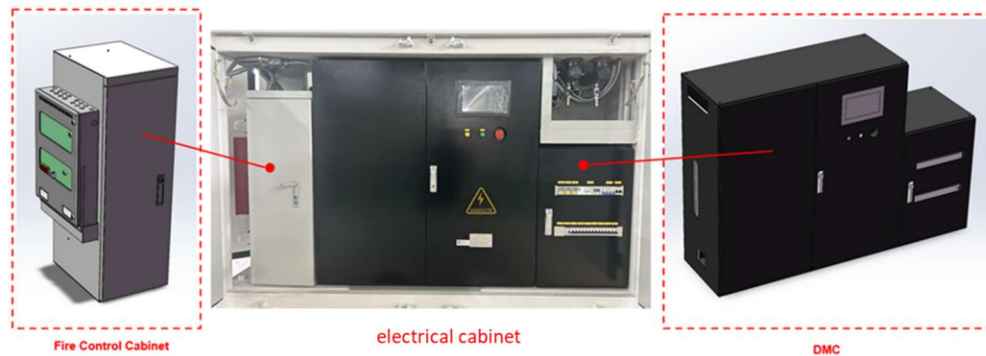

Figure 25: Description of Solbank Electrical Cabinet Layout
- ✓ Step 2: Identify location of SolBank3.0 series auxiliary power supply terminations, as shown in Figure 25.